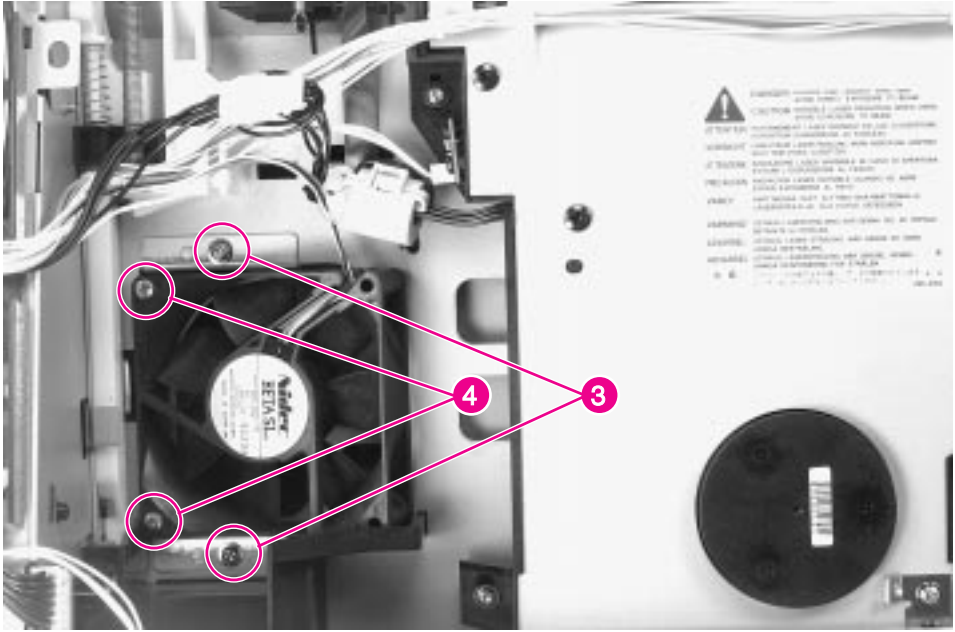

Figure 6-19 Fan 1, Laser/Scanner (2 of 2)
- 2 Remove 2 screws (figure 6-19, callout 3), and lift the fan and bracket assembly out of the chassis.
- 3 Remove 2 screws (figure 6-19, callout 4) to separate the fan motor from the bracket.